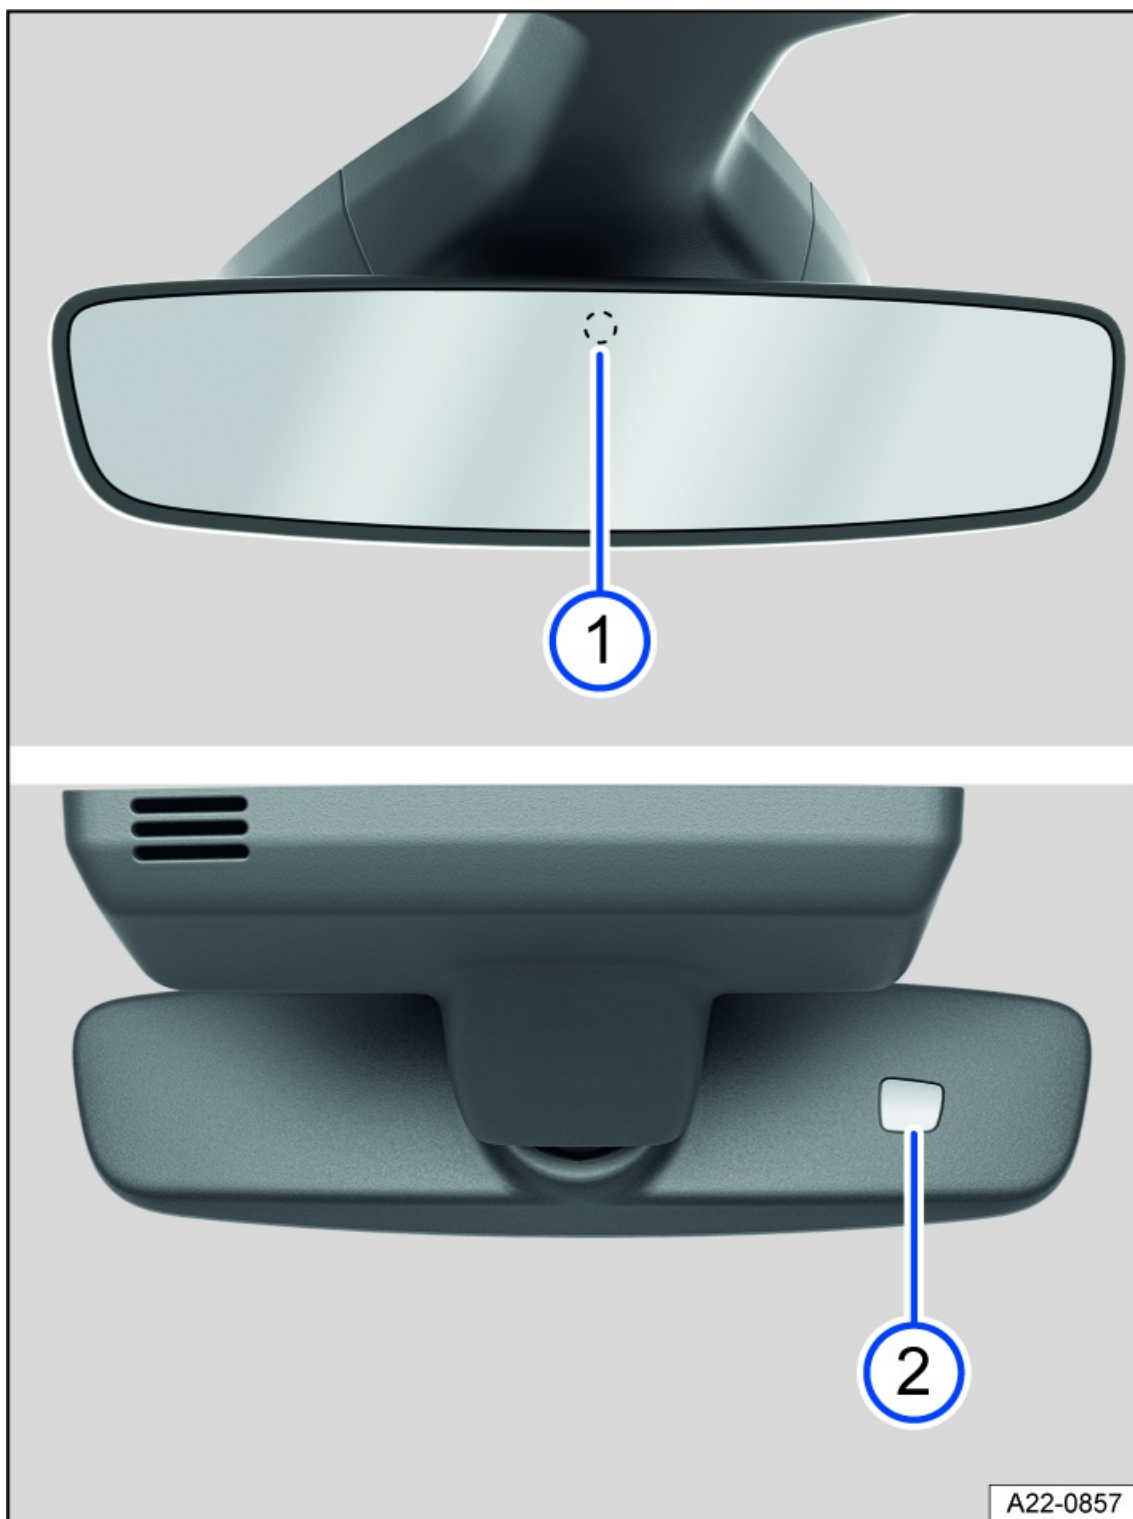

Fig. 107 On the windshield: automatic dimming interior rearview mirror.
When the ignition is on, the sensors measure the amount of light entering from the rear fig. 107 ① and from the front ②. Depending on the measured values, the interior rearview mirror will dim automatically.